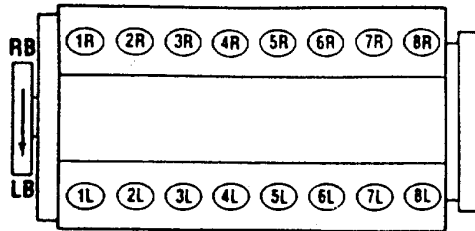
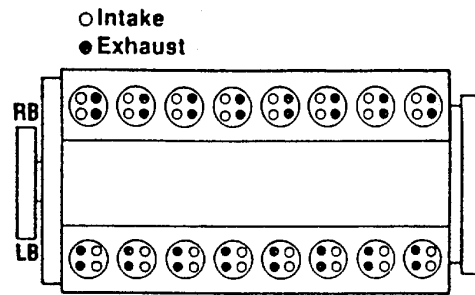

FIGURE 2-33. Cylinder Number.
FIGURE 2-34. Intake and Exhaust Valve Location.
- (2) Reference FIG. 2-33 for how cylinders are numbered. Reference FIG. 2-34 for location of intake and exhaust valves.